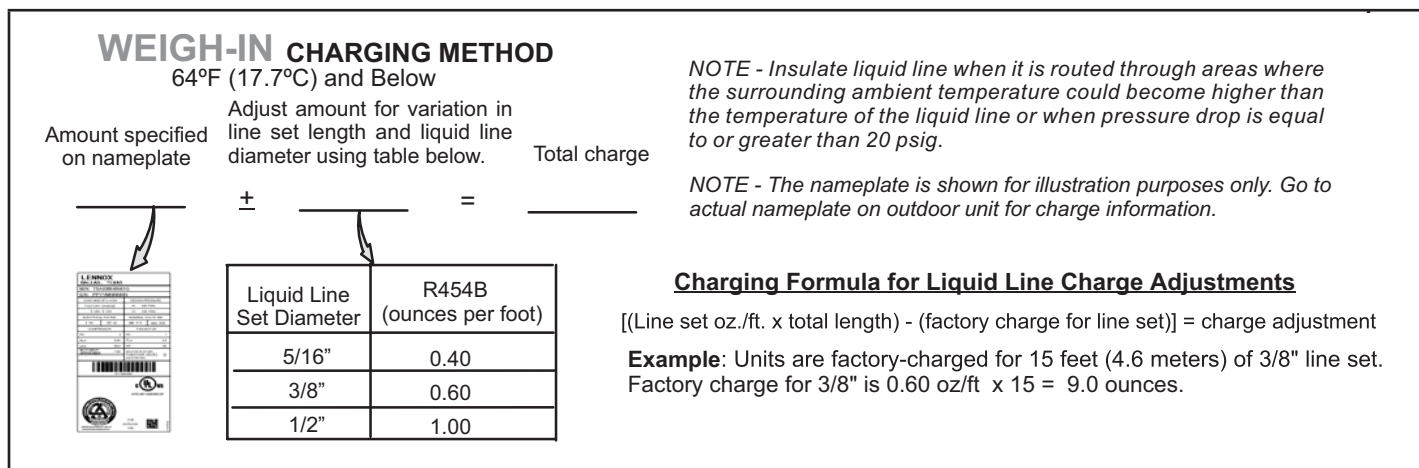

FIGURE 58. Using R454B Weigh-In Method
- 3 - Add or remove refrigerant using the weigh-in method shown in FIGURE 58.